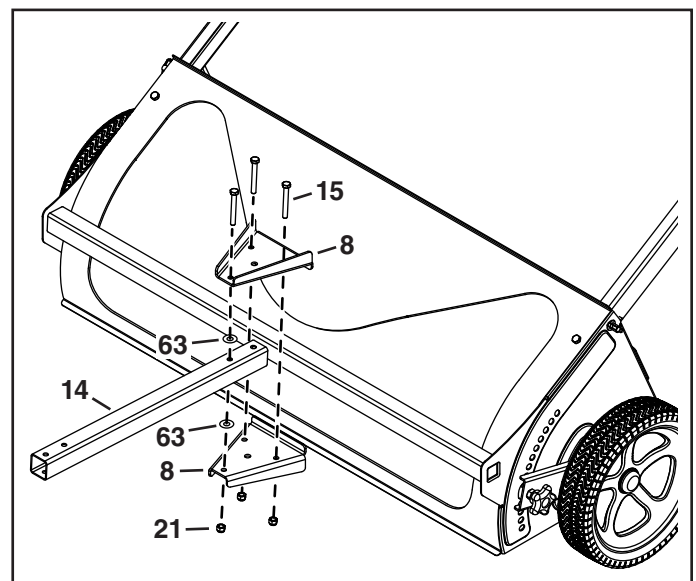

FIGURE 4
6. Attach the drawbar (14) to the sweeper by fastening a drawbar bracket (8) above and below the drawbar using two washers (63), three 5/16" x 2-1/2" hex bolts (15), and 5/16" nylock nuts (21). See figure 4.